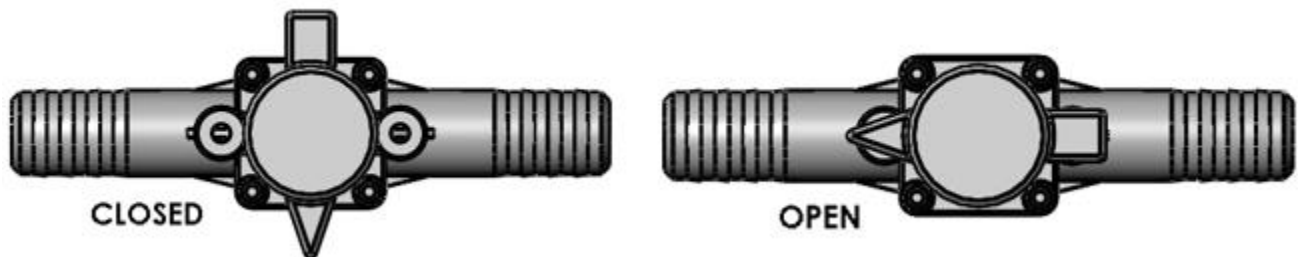

Figure 18
5. Verify that the 5/8" Shutoff Valve installed earlier is in the open position. The valve should be turned such that the handle is parallel to the 5/8" hose. See **Figure 18**.